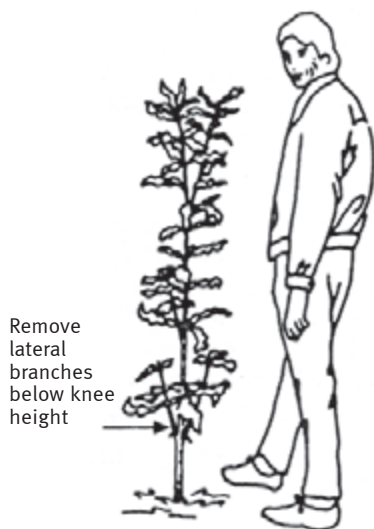

Figure 14. Pruning action where lateral branches are too close to ground level
2. Where a tree has produced branches below about knee height, prune off these branches (Figure 14).